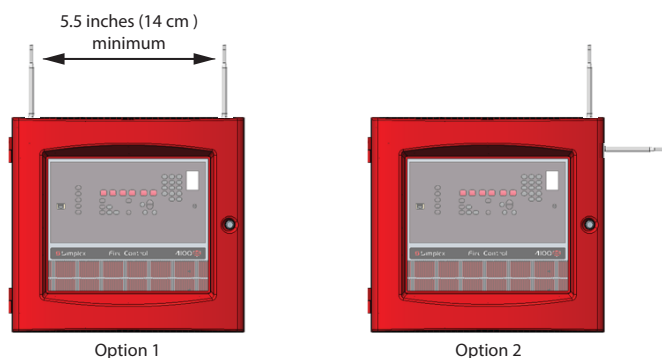

Figure 5. Primary and secondary antennae mounting example
- Mount the secondary antenna vertically at least 5.5 inches (14 cm) away from the primary antenna and other antennae. Alternatively, you can mount the secondary antenna at a 90 degree angle from the primary antenna at the side of the FACU, without spacing restrictions. See Figure 5.